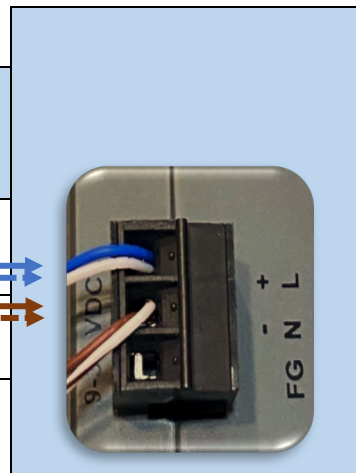

Figure 3 – 24VDC Connection to the Gateway
- 1.2 - Strip pin 7 (Brown-Stripe) and pin 8 (Brown-Solid) of the ethernet cable and connect to -N terminal of the Gateway for DC- Ground as shown in Figure 3.